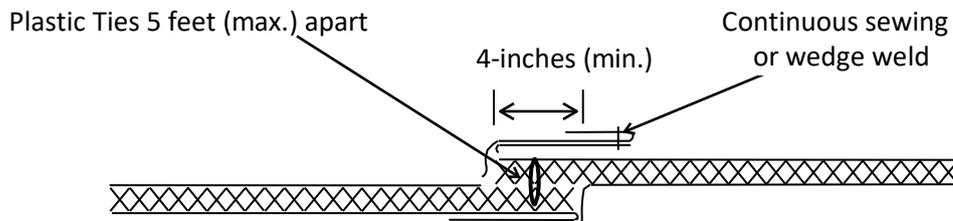

Figure 1: Overlap Along Roll Length (Machine Direction)
- Adjacent edges of geonet along the side length (parallel to machine (flow) direction) of the geocomposite panels should be overlapped a minimum of 4-inches or as recommended by the Engineer, see Figure 1. These overlaps shall be joined by tying the geonet cores together with white or yellow plastic fasteners or polymeric braid. These ties shall be spaced at a maximum of every 5 feet along the roll length.